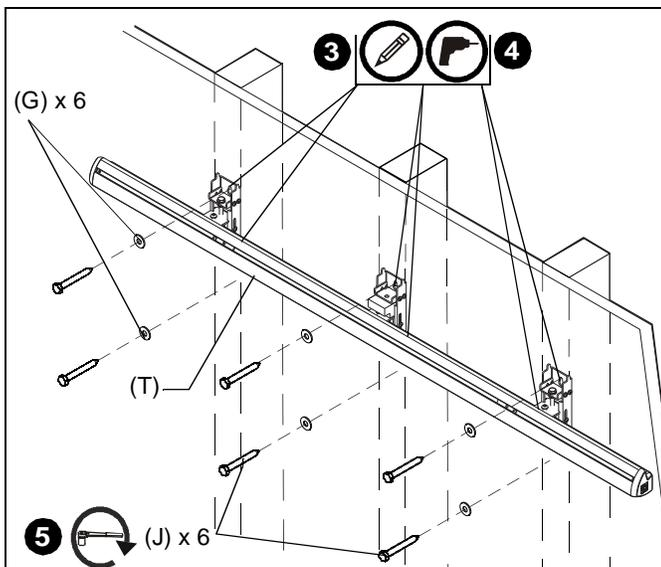

Figure 4
**NOTE:** The mounting holes for the two outside OB1U wall brackets on the wall assembly (T) may be located a **maximum** of 48" apart.
**NOTE:** The center wall bracket must remain in the center of the wall assembly (T) **AND** a **minimum** of 16" from both outside wall brackets.
**NOTE:** Leave a **minimum** of 1" between the bottom of the wall assembly brackets and the top of the existing chalkboard/whiteboard. This will allow enough space to install the wall bracket covers (Q) at a later time.
3. Using the wall assembly (T), mark the wall on each stud above existing chalkboard/whiteboard through mounting holes in each bracket. (See Figure 4)
4. Drill one 1/8" pilot hole at each mark. (See Figure 4)
5. Use six 1/4" x 2-1/2" lag bolts (J) and six 1/4" flat washers (G) to attach wall assembly (T) to wall. (See Figure 4)